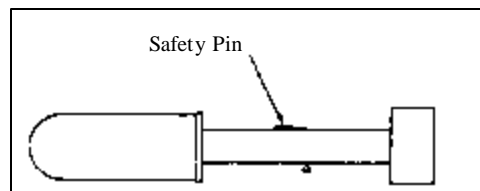

Figure 57. U.S. M19 WP smoke grenade.
- (5) White phosphorus (WP) smoke rifle grenades (shown in Figure 57) are of the burning type.